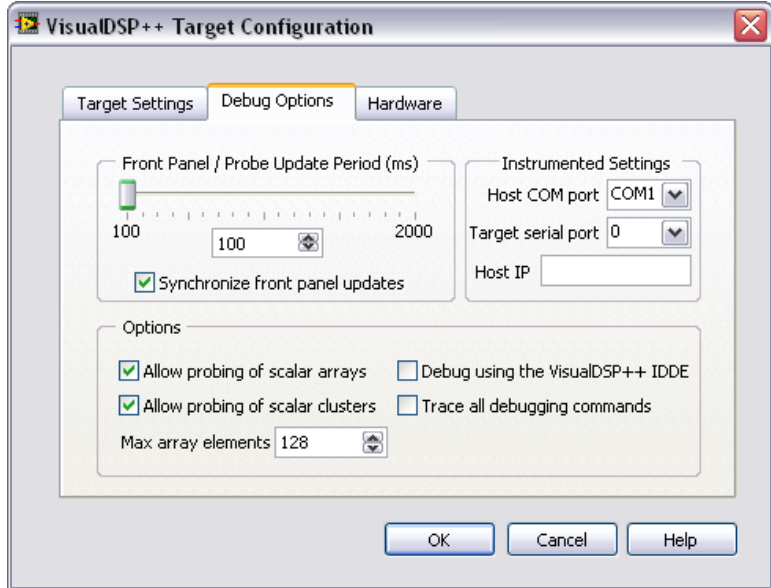

Figure 5. Configuring the Debugging Options
- Change the **Front Panel / Probe Update Period (ms)** to 100 by moving the slider or typing 100 in the numeric control under the slider as shown in Figure 5. This setting configures how often the front panel updates with data from the Blackfin application.